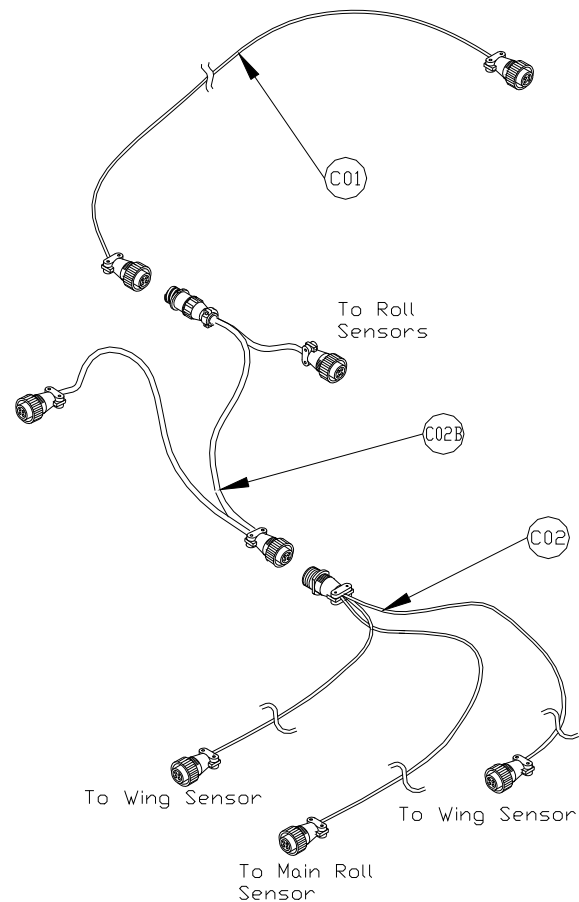

Figure 36: Cable Configurations: C01, C02 and C02B
16. Connect the sensor branch cable (**C02**) to the 4-pin AMP plug on **C02B** (**Figure 36**).